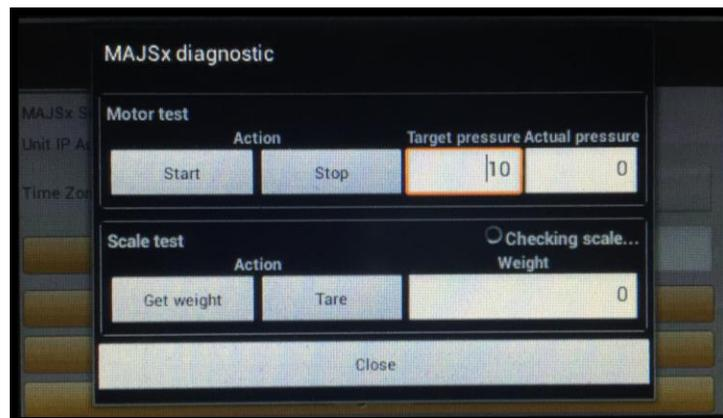

Figure 13
- h. **Diagnostics.** The diagnostics button opens a window that will perform testing of the wand motor and scale. (Figure 13)